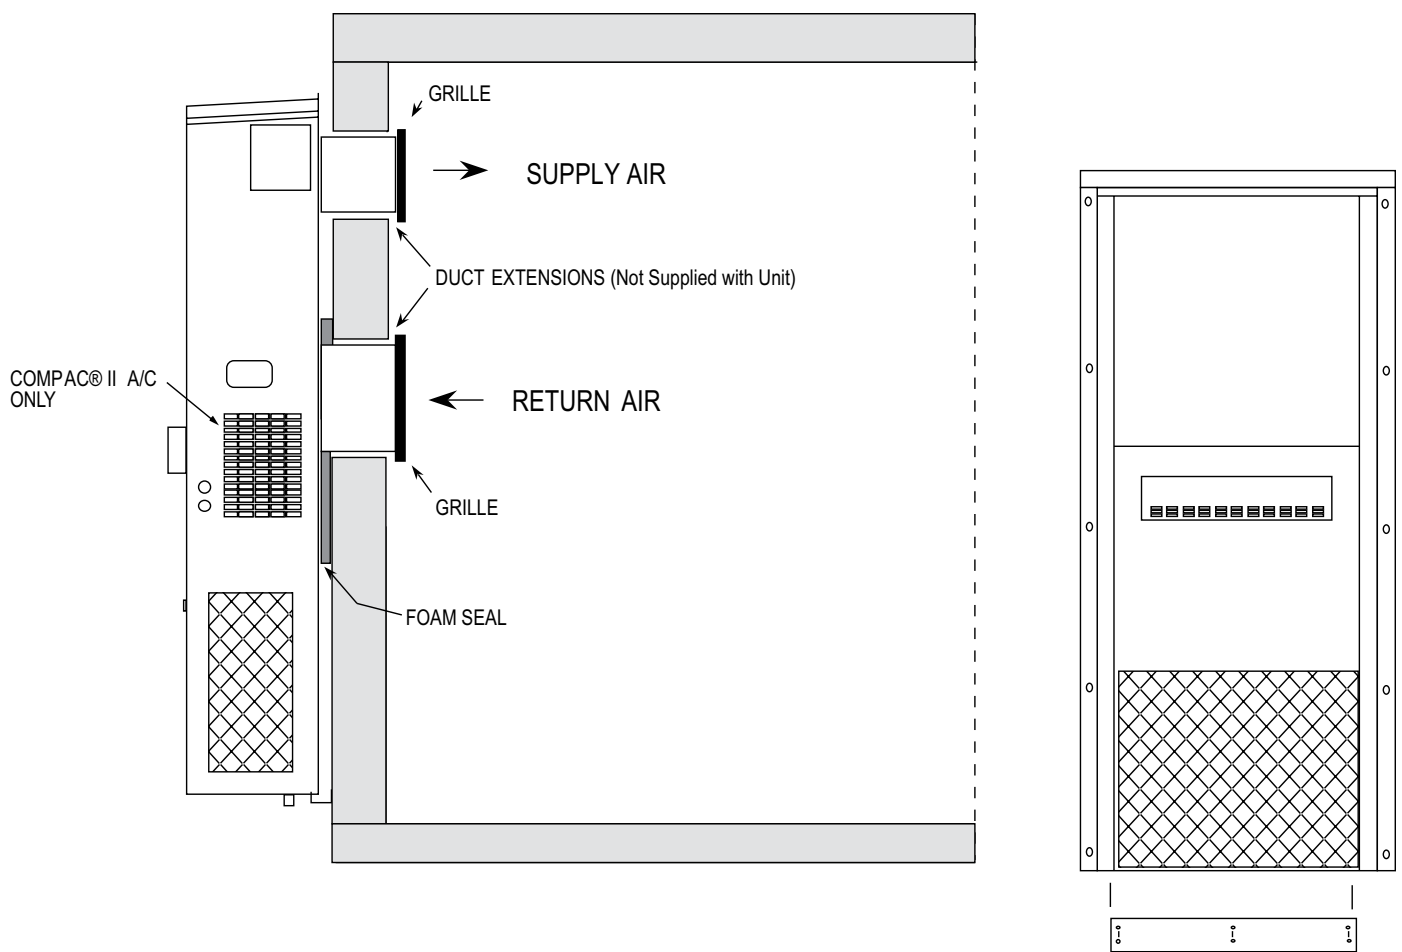

Figure 7. ComPac® I and ComPac® II A/C Wall Mount Detail (AVP24-72)
3. Refer to Figure 7. Attach the bottom support bracket to the wall using appropriate 3/8" diameter hardware.